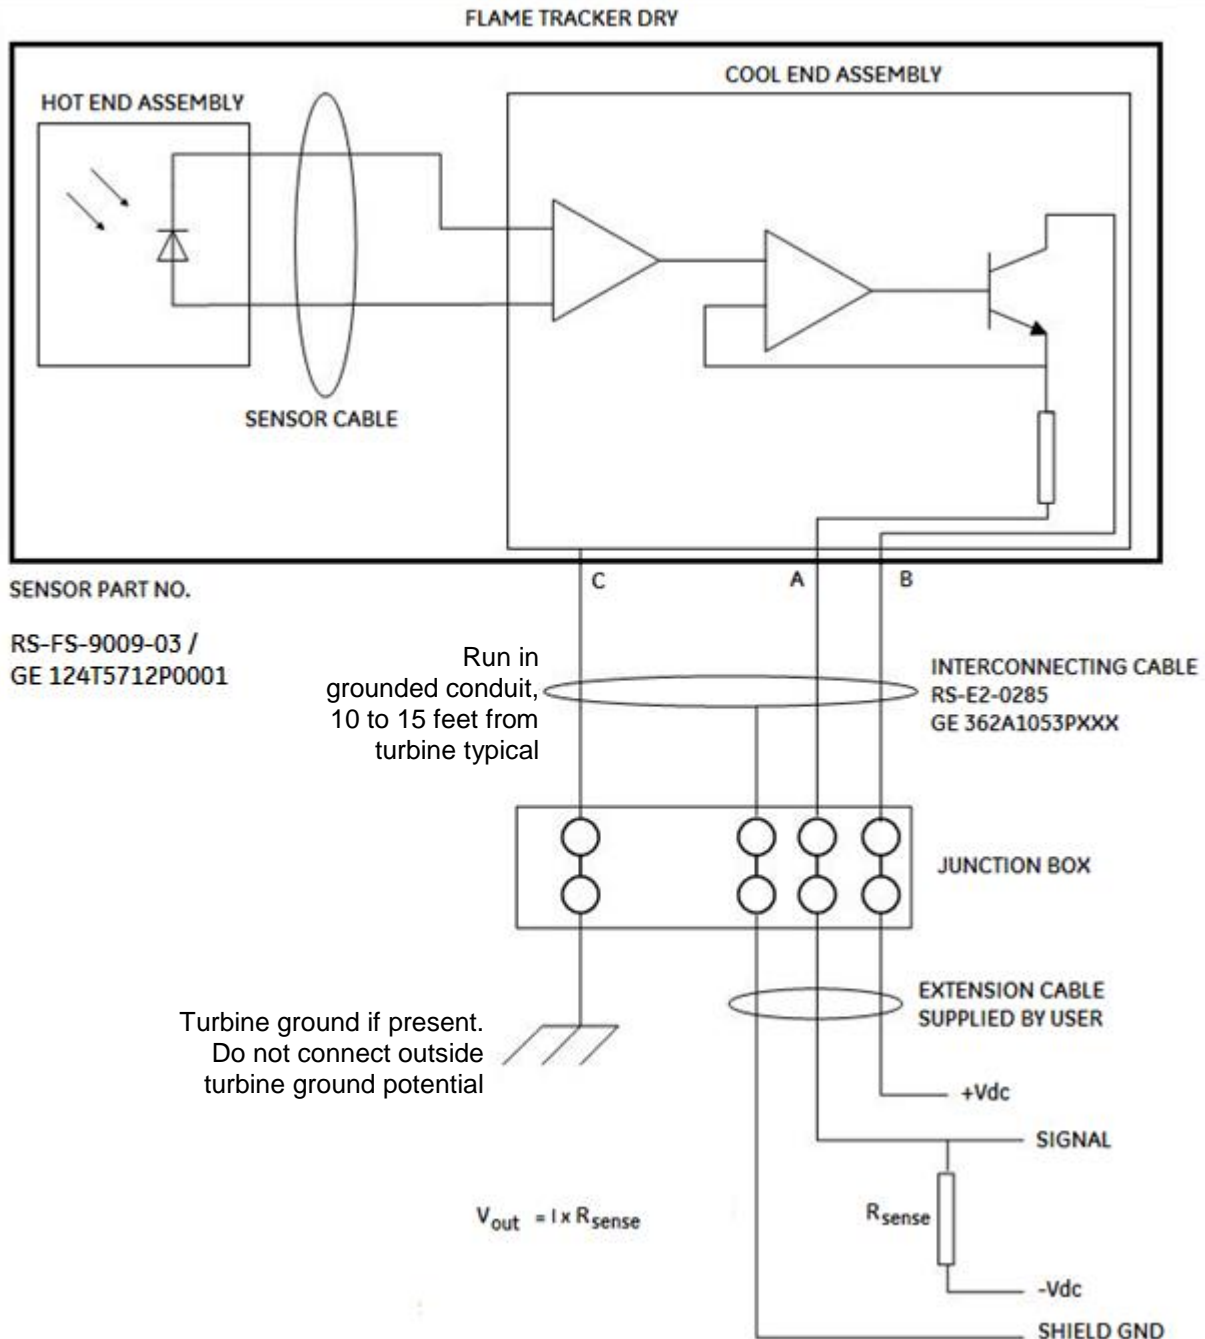

Figure 1: Flame Tracker Dry SiC Block Diagram
Figure 1 is a block diagram of the **Flame Tracker Dry**. Inside the *Hot End* assembly a lens focuses UV light from the combustion reaction onto a silicon carbide photodiode, which converts it into an electrical current in proportion to the intensity of the UV light. The photodiode is connected, via the *sensor cable*, to an amplifier in the *Cool End* assembly. The amplifier has a high initial gain, which automatically shifts to a lower gain in order to accommodate a wide range of input light levels without saturating. The sensor regulates the supply current in proportion to the intensity of the UV light. Both power and signal are transmitted on the same two wires on the output of the *Cool End*. The sensor can be powered from a DC voltage between 12 and 30 volts.
*Figure 1* shows the preferred wiring for the sensor with the  $R_{sense}$  of the controller in the return line of the sensor. This configuration can be used with controllers that have single ended inputs (one side of the input grounded) or differential inputs (neither side of the input grounded). For the interconnecting cable pinout see *Table 1* and reference *Figure 1*.